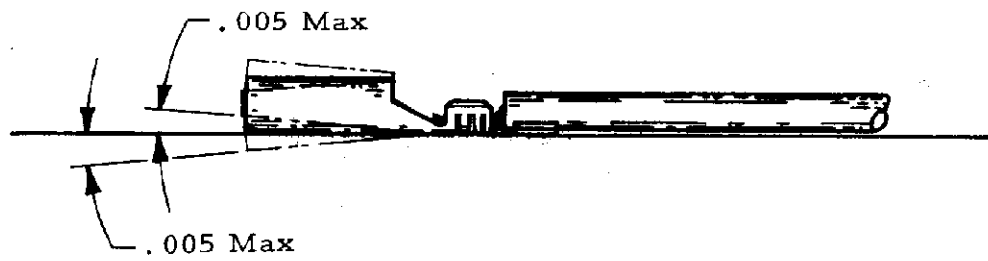

Figure 4
C. Contact shall not be bent above or below the datum line more than the amount shown in Figure 4.